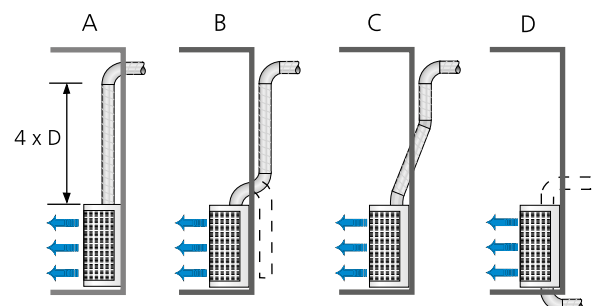

Figure 3. E.g. of how different duct connections affect the sound level of the terminal.
Note: The sound level in the engineering diagrams is valid at 1620 sq ft equivalent sound absorption area. This fact makes it important to check the air velocities in the connecting ducts to the terminals. Extra consideration has to be taken on how the ducts can be connected to the terminals. See figure 3.
- Obstructions in the connecting duct will have a negative effect on the sound level, see figure 3.